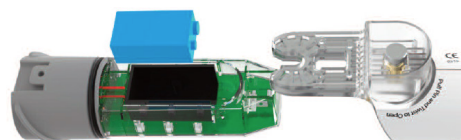

Figure 3
3. Remove the existing battery and replace it with a fresh 9V battery. When inserting battery into housing, make certain that the polarity is correct. (Fig. 3)